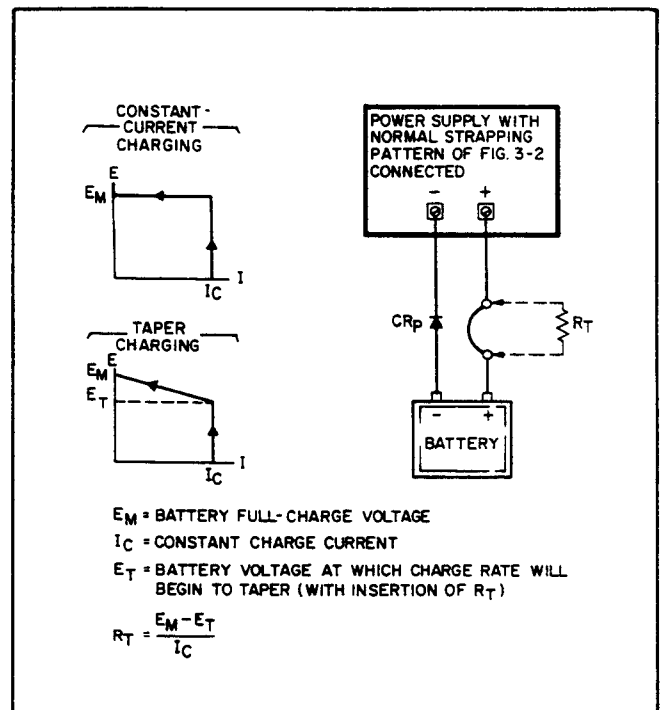

Figure 3-16. Battery Charging
Any time these supplies are used to charge a battery, be sure to install a protective diode CR_p in series with the battery as shown in Figure 3-16 to prevent the battery from discharging into the supply if the supply is turned off. Extensive damage to the supply could result if this diode were omitted.
- b. Connect a short circuit across the output terminals and rotate the VOLTAGE control fully clockwise (CW).
- e. Adjust the VOLTAGE control for an output voltage 0.7 volts greater than the desired full charge voltage. (The added 0.7 volts compensates for the drop across CR_p .) The supply may then be connected to the battery terminals, positive to positive and negative to negative as shown in Figure 3-16 (omit R_T).
3-90 Taper Charge. When charging lead-acid cells, many manufacturers recommend that the charging current be reduced as the charge nears completion. This can be accomplished by inserting a small resistance (R_T) in series with one of the load leads from the supply to the battery. (See Figure 3-16.) This resistor alters the normally rectangular charging plot in such a manner as to provide a taper charge for the last portion of the charge. The proper value for this resistor is the difference between the full charge voltage and the voltage at which the tapering is to start, divided by the initial charging current. Set the initial charging rate and full charge voltage as instructed in paragraph 3-89.